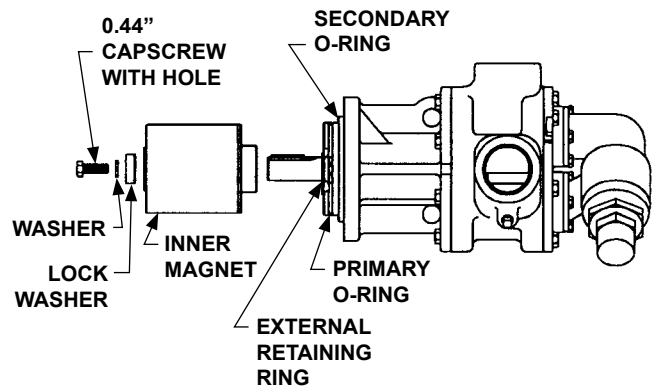

FIGURE 11
- Insert a brass bar through a port between two rotor teeth and loosen the capscrow holding the inner magnet to the shaft (See Figure 11). Do not forget, this is a very strong magnet. If pump disassembly is required, remove the external retaining ring.